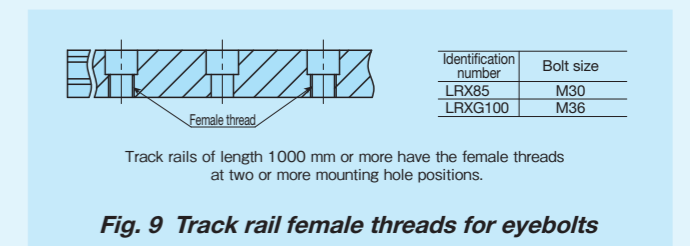
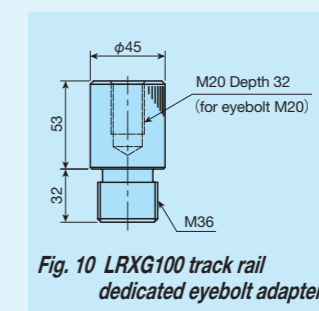

Fig. 9 Track rail female threads for eyebolts
Fig. 10 LRXG100 track rail dedicated eyebolt adapter
- As LRX(D)(G,L)85 and LRXG100 are heavyweight products, we recommend the use of eyebolts for transport and assembly. For eyebolt mounting, use the slide unit mounting holes and the track rail female threads for eyebolts (Fig. 9). For the LRXG100 track rail, also use the LRXG100 track rail dedicated eyebolt adapter (Fig. 10).